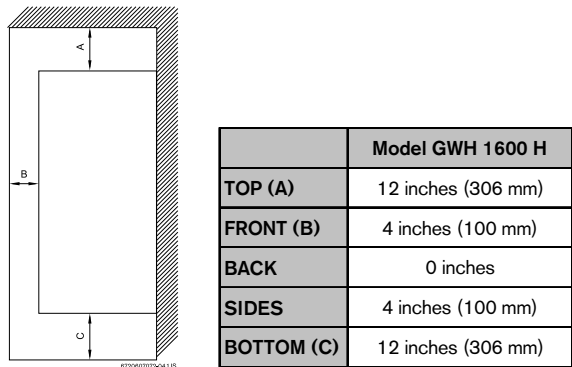

Fig. 4 Minimum clearances
The GWH 1600 H is design certified for installation on a combustible wall (see 3.4 Mounting installation) provided the floor covering below the heater is noncombustible. For installations in an alcove or closet, maintain the minimum clearances to combustible and non-combustible materials listed below. See also Fig. 4.
- ▶ A 5 inch diameter gas vent constructed of double wall Type B gas vent is recommended. A 6 inch vent is required in elevations greater than 2000 feet, see Fig. 4. Under no circumstances should the vent pipe be reduced in size.